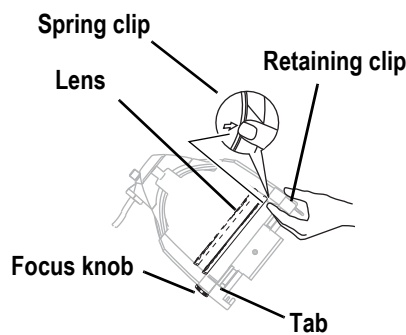

Figure 6
- Step 3: Tilt the front of the fixture down at least 45°. See Figure 6.